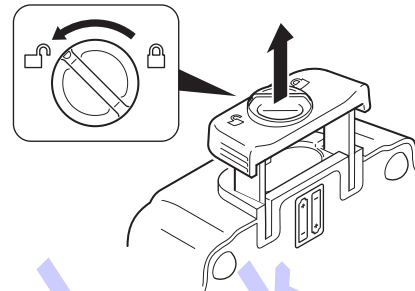

Figure 68 – Access Foot Pedal Batteries
1. Turn the battery compartment knob to unlock and open the door (Figure 68).